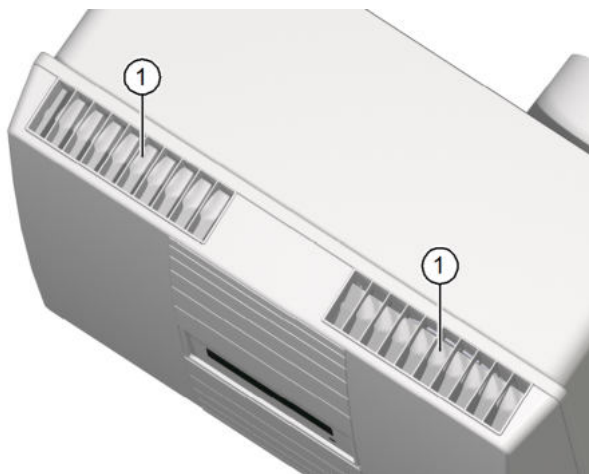
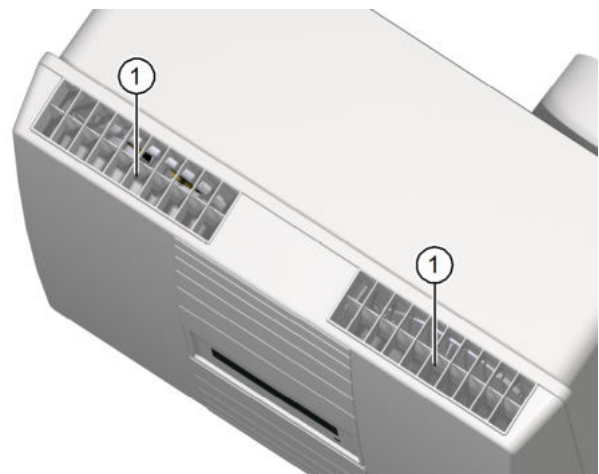

Fig. 12: Air flaps closed
Fig. 13: Air flaps open
- ▶ Check the position of the air flaps (see Fig. 12 and Fig. 13) on the extract air and supply air openings.
- Both air flaps will be closed if the ventilation unit is switched off or without power (see item 1 in Fig. 12).
- Both air flaps open when you switch on (see item 1 in Fig. 13).